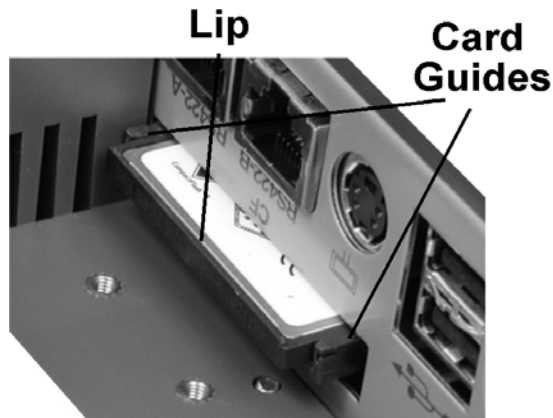

Figure 4-8: Compact Flash Card Removal
- Figure 4-8 shows the CF personality card. Note the keying lip on the bottom of the card and the guides that hold it in place.
5. Remove the CF card from the inoperative WS4 LX. Use your thumbnail or pen to catch the lip and remove the card from the socket. Figure 4-8.